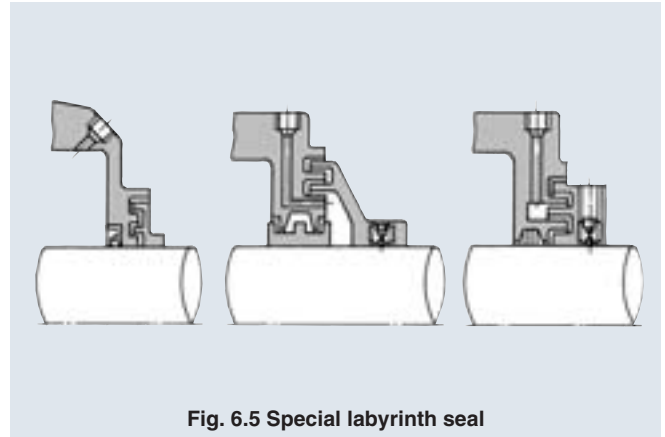

Fig. 6.5 Special labyrinth seal
(2) Special labyrinth seal (Fig. 6.5)
The special labyrinth seals such as those in Fig. 6.5 are very useful for applications where heavy soil and dust are present.